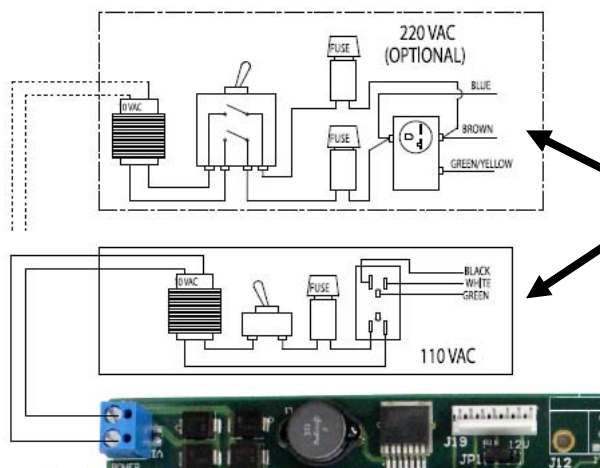

Figure 3.21 – Connect primary power.
Figure 3.21 - The bolt locations to mount the yoke section to the top channel are identified with white arrows. The bolt location to mount the yoke guard plate to the top channel is identified with a black arrow.
3. Using a flathead screwdriver, unscrew the junction box cover to connect 110VAC/220VAC to the transformer/power switch box (Figure 3.21) per local electrical codes based on model received.